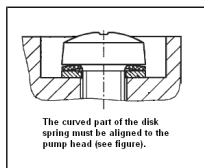

Fig.12: Orientation of the disk spring
**i** For the arrangement and orientation of the disk springs and washer of the screw, see Fig. 12.